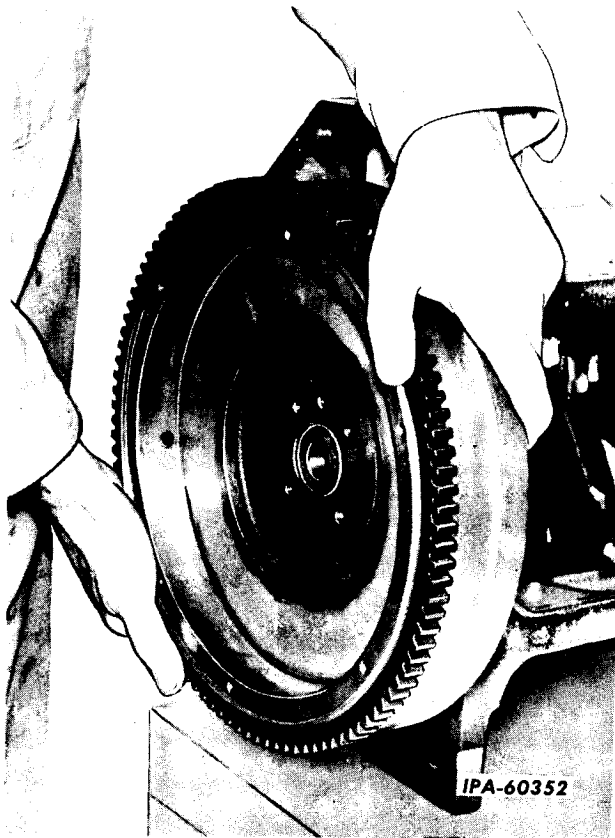

Fig. 9 - Removing the Flywheel
**NOTE:** Consider the weight and avoid the possibility of the flywheel dropping. Use a sling if necessary (Fig. 9).